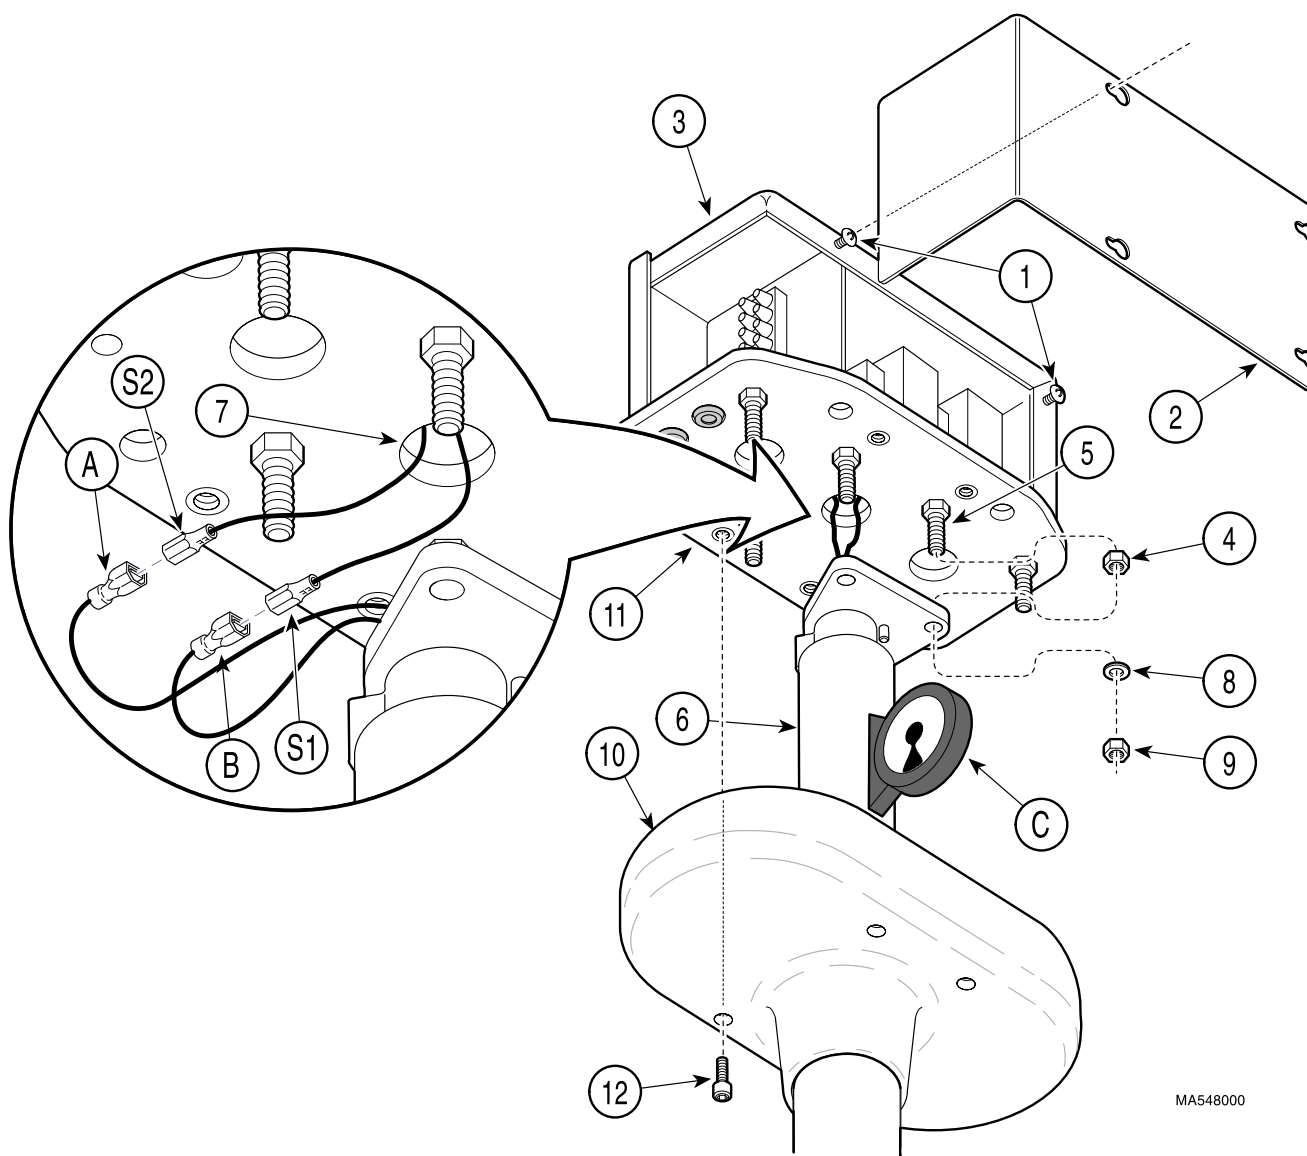

Figure 7. Down Tube Installation
- (1) Turn off facility power breaker so there **is no** power in customer supplied wiring.
- (2) Loosen, but do not remove, four screws (1, Figure 7); then pull outward on box cover (2) and remove box cover from junction box (3).
- (3) Install conduit fitting (customer supplied) in the knockout of the junction box (3).
- (4) Feed the facility supplied wiring through the knockout in the junction box (3).
- (12) Feed brown and blue transformer output wires out of wire hole (7, Figure 7) in bottom of junction box.
- (13) Position box cover (2) on junction box (3) and secure by tightening four screws (1).
- (1) Thread three 3/8" x 16 hex nuts (4, Figure 7) (supplied) onto three bolts (5) until they are handtight; then back off each nut one full turn.
- (2) Position down tube (6) near wire hole (7).
- (3) Connect brown wire (S2) from junction box (3) to brown wire (A) from down tube (6).
- (4) Connect blue wire (S1) from junction box (3) to blue wire (B) from down tube (6).
- (5) Install down tube (6) on three bolts (5) and secure with three 3/8" lockwashers (8) and 3/8" x 16 hex nuts (9) (supplied).